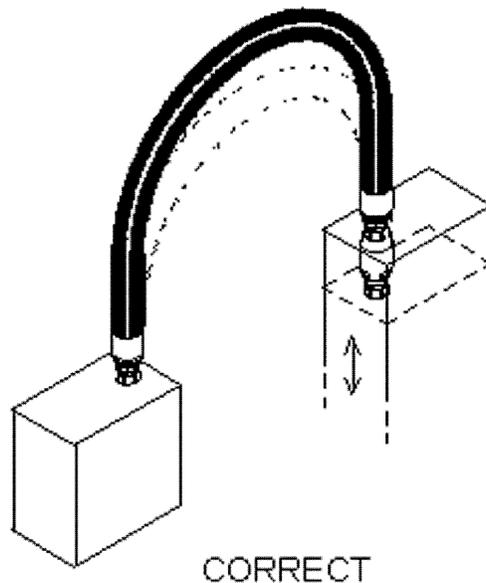

FIGURE 7A—BEND IN ONLY ONE PLANE TO AVOID TWISTING
- 5.24 **Hose Movement and Bending**—Hose allows relative motion between system components. Analyze this motion when designing hose systems. The number of cycles per day may significantly affect hose life. Also avoid multiple planes of motion and twisting motion. Consider the motion of the hose when selecting hose and predicting service life. In applications that require hose to move or bend, refer to Figures 7A, 7B, and 8; and use these practices: